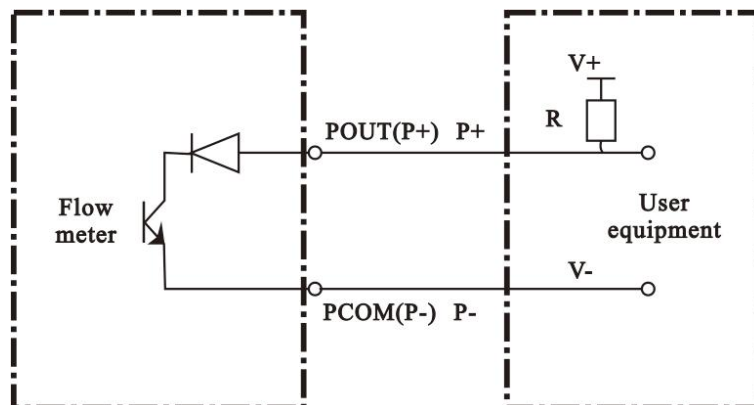

Figure 8
7.4.1 Output mode 1: OC door passive output, it is connected to pull resistance on the user side (Figure 8)